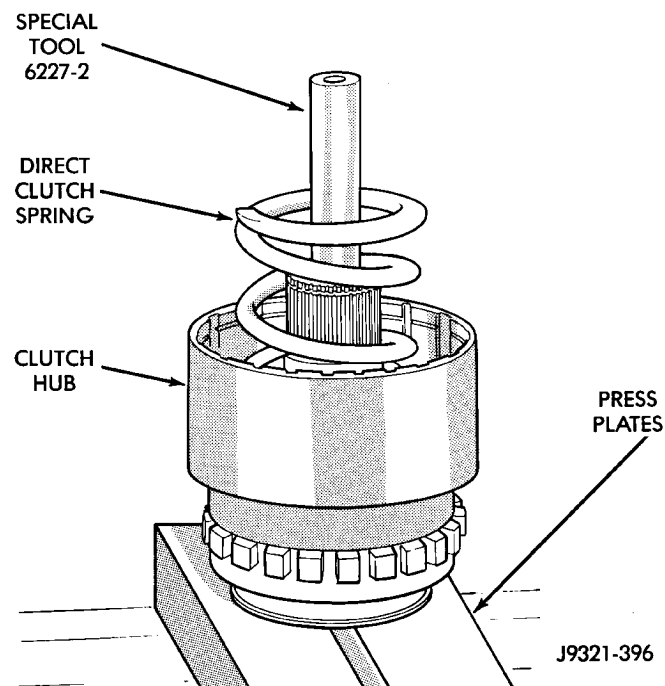

Fig. 224 Direct Clutch Spring Installation
(17) Install direct clutch spring (Fig. 224). Be sure spring is properly seated on spring plate.